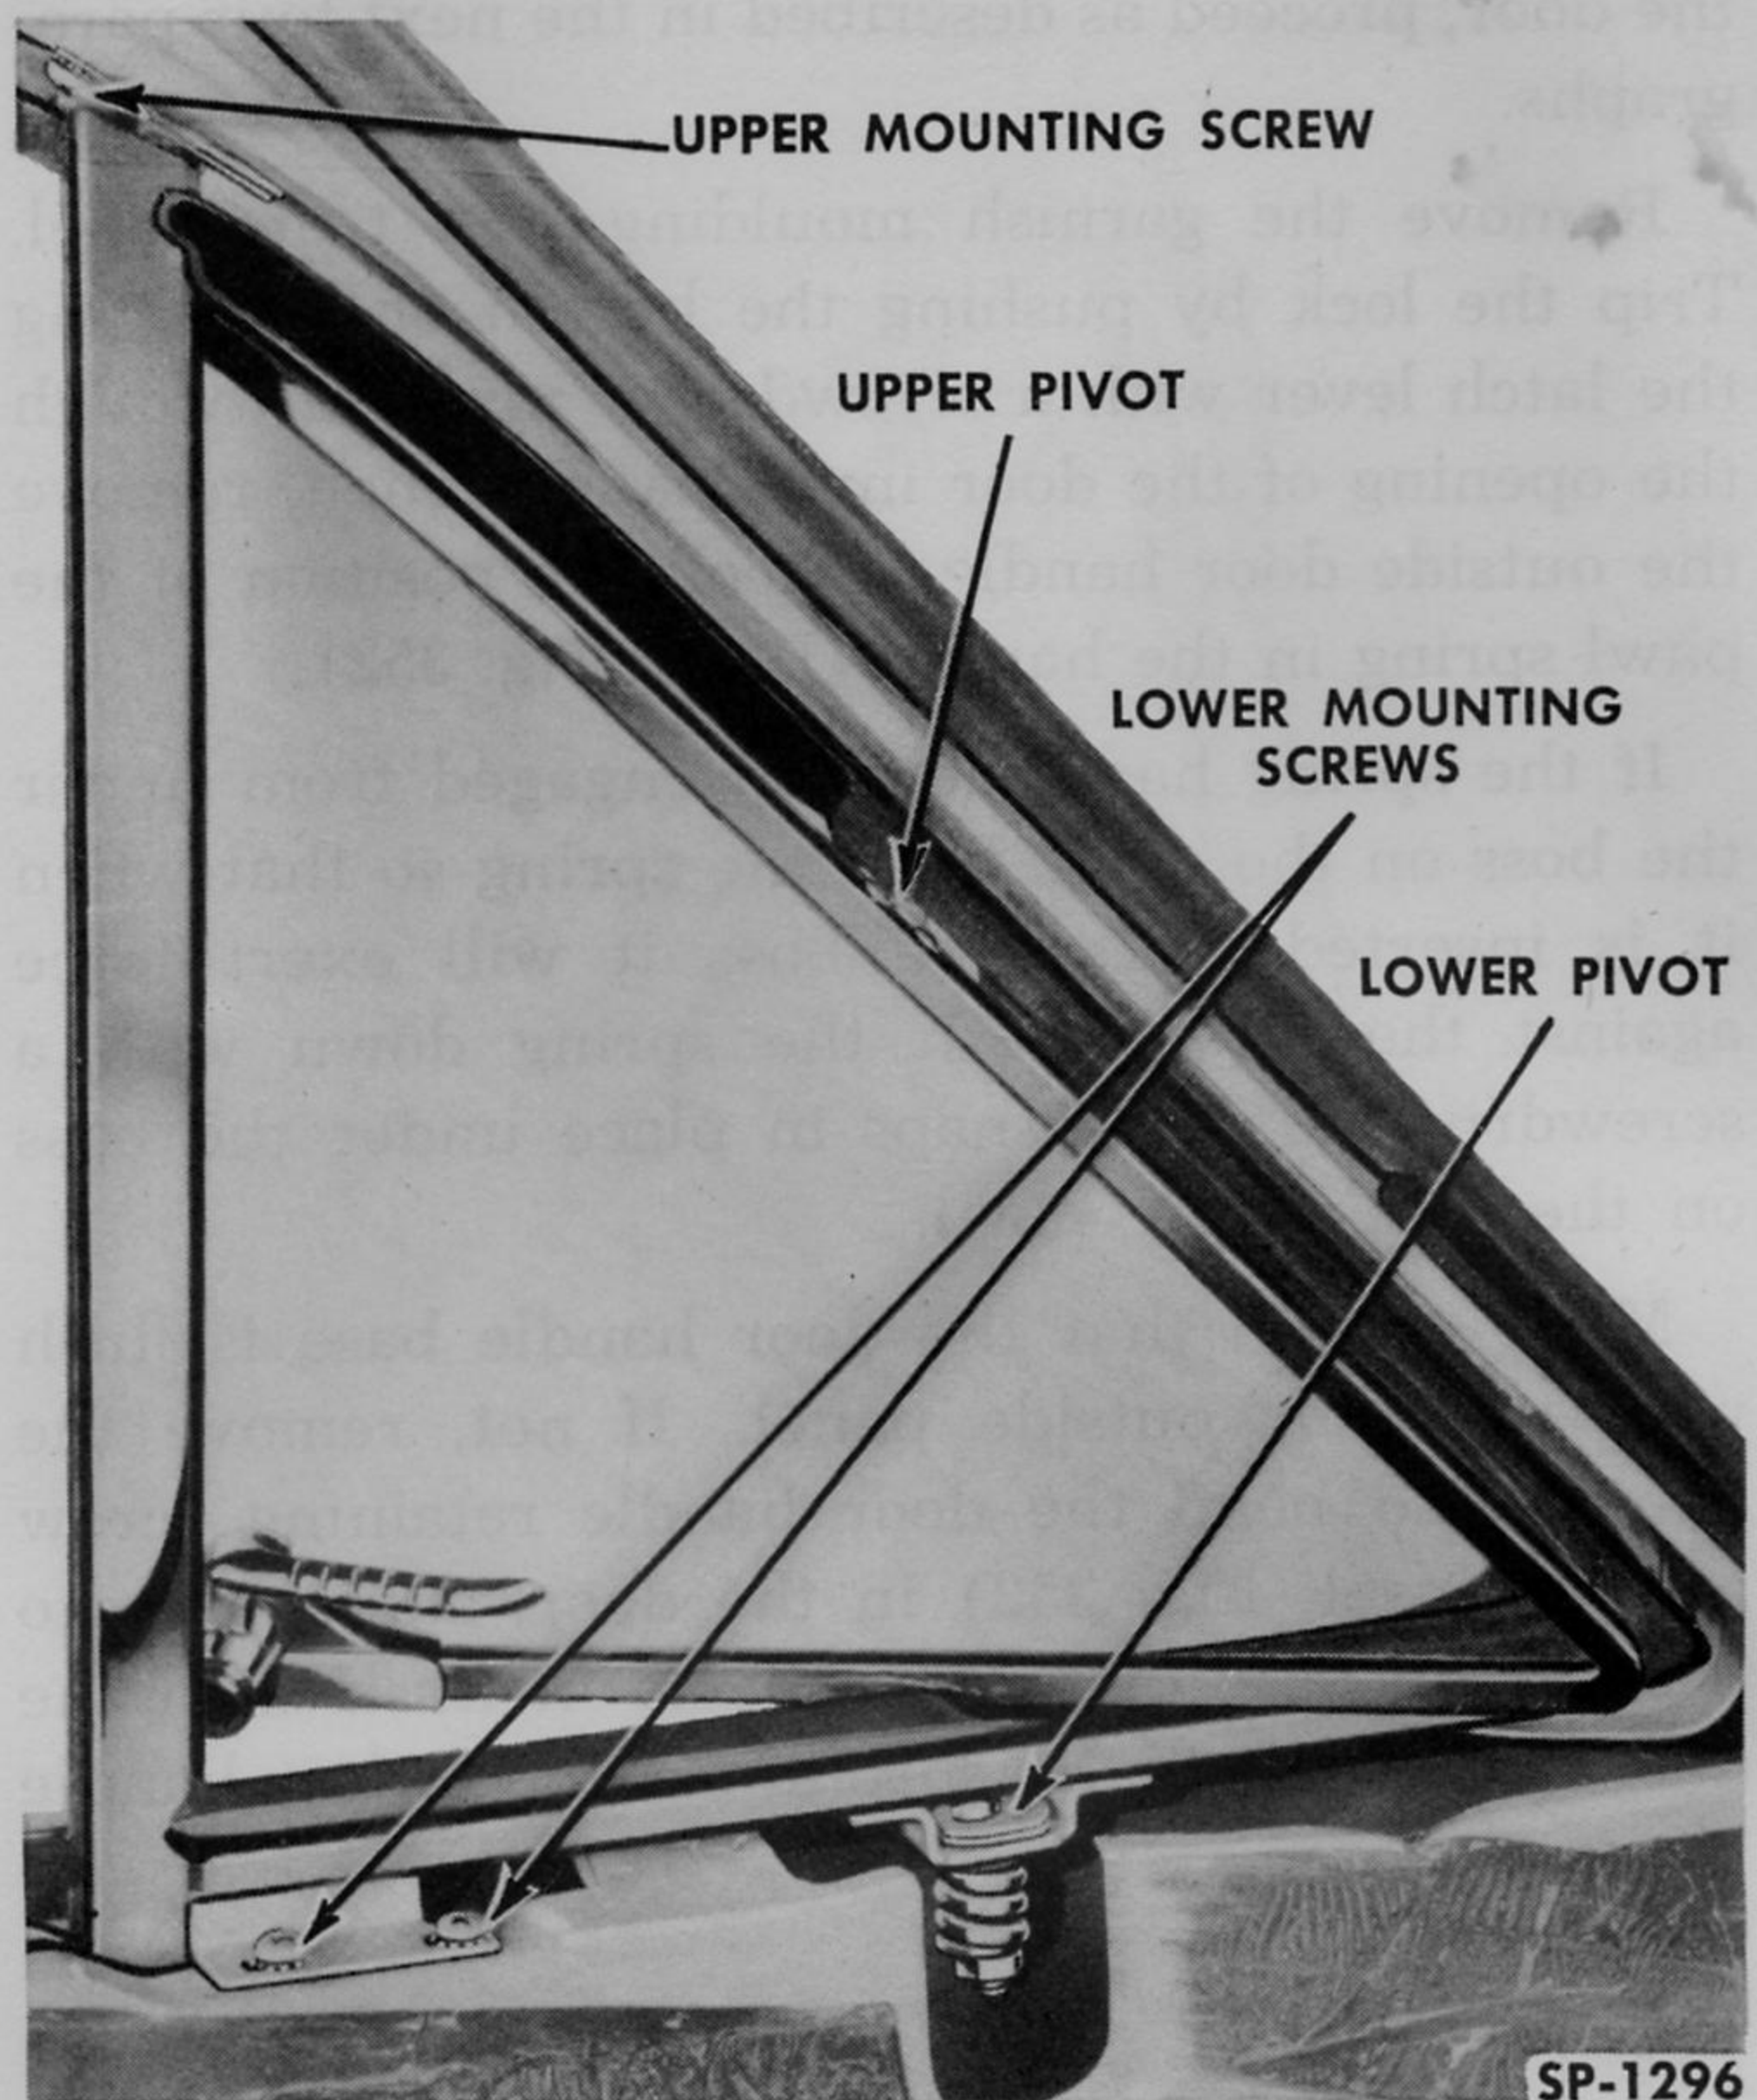

Fig. 353—Door Ventilator—Kaiser
**a. DOOR VENTILATOR REPLACEMENT.** Remove the garnish moulding and ventilator upper and lower mounting screws (Fig. 353 and 354). Remove the ventilator from the door window frame. When installing the ventilator, adjust at the spring loaded lower pivot mechanism, located at the bottom of the ventilator frame, until opening and closing of the ventilator is accomplished without excessive force.